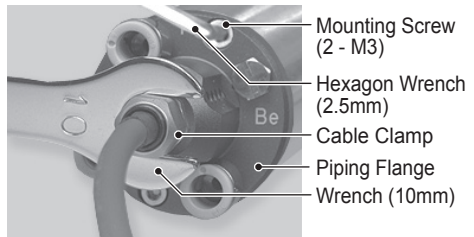
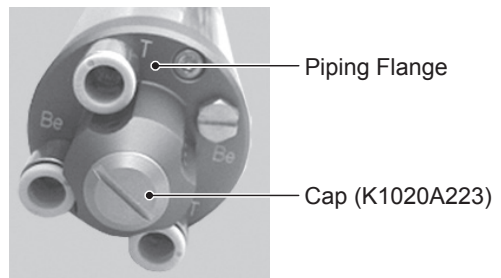

Fig. 21
Fig. 23
- (1) Place the Wrench (10mm provided wrench) on the Cable Clamp and turn it counter-clockwise to remove the Cable Clamp (Fig. 21).
- (2) Loosen the Mounting Screw (2 - M3) on the Piping Flange by using a 2.5mm Hexagon Wrench (not included / prepared by the end-user) (Fig. 21).
- (3) Remove the Piping Flange from the Air Bearing Turbine Spindle body.
- (4) Remove the Sensor Set Screws (2pcs. M2.6) inside the Piping Flange by using the 2.0mm Hexagon Wrench (provided).
- (5) Carefully pull out the Cable Clamp and Wiring Cable from the Piping Flange.
- (6) Install the Cap (Standard Accessory : K1020A223) to the Piping Flange by using a Flat-Blade Screwdriver (not included / provided by the end-user) (Fig. 23).
- (7) Install the Piping Flange to the rear end of Air Bearing Turbine Spindle with the 2pcs. / 3mm set Screws (provided) and securing with the 2.5mm Hexagon Wrench (Provided) (Fig. 23).
- (8) Supply the proper air pressure to the Air Bearing Supply Air Piping Connection Port (Be). Ensure there is no air leakage and proper flotation of the rotating shaft.
- (9) If the installation is successful, please perform the break-in procedure detailed in " 10 - 1 Berak-in Procedure " section. If installation is abnormal, re-check the mounting of Piping Flange.